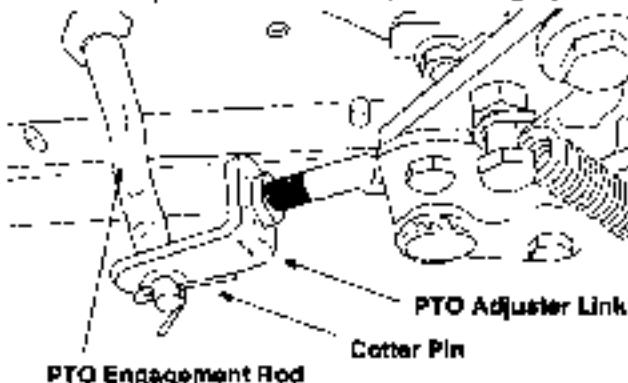

Figure 12
- Locate the PTO engagement rod and the PTO adjuster link by looking at the tractor's underside. See Figure 12.
- Remove the cotter pin that attaches the lower end of the PTO engagement rod to the PTO adjuster link. Save the pin. See Figure 12.